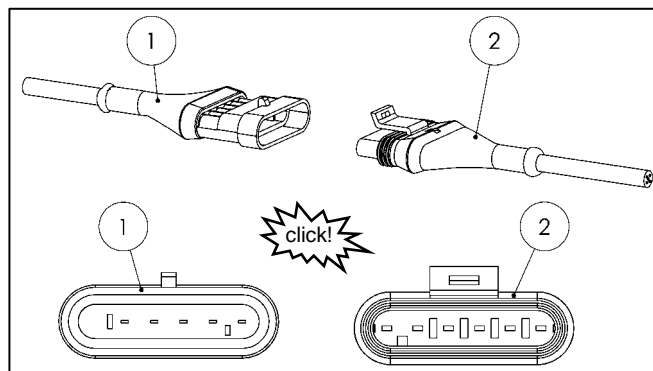

Fig. 42
- Connect the control panel connector (1) to the control unit connector (2) (see Fig. 42).